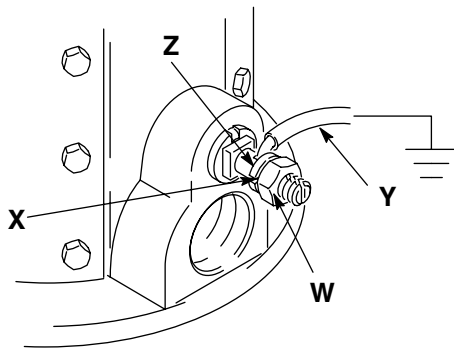

FIG. 1
**Pump:** use ground wire and clamp as shown in FIG. 1. Remove the ground screw (Z) and insert through the eye of the ring terminal at the end of the ground wire (Y). Fasten the ground screw back onto the pump and tighten securely. To order a ground wire and clamp order part number 222011.